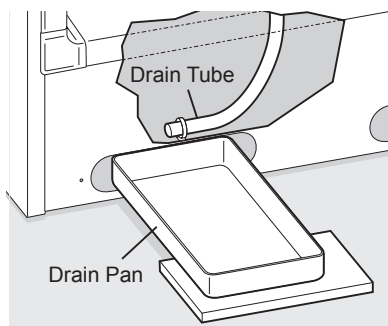
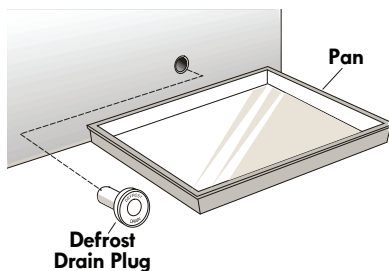
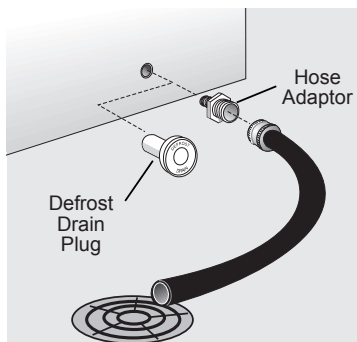

Figure 1
Figure 2
Figure 3
- Place a shallow pan under the drain tube. Defrost water will drain out. Check the pan occasionally so water does not overflow (see figure 1).
- Place a shallow pan beneath the drain outlet. Pull out the outside drain plug (see figure 2). A ½ inch garden hose adapter can be used to drain the freezer directly into a floor drain (see figure 3). If your model is not equipped with an adapter, one can be purchased at most hardware stores.
- Place a shallow pan or the Divider/Drain Pan (if equipped) beneath the drain outlet. Pull out the outside drain plug (see figure 1). A 1/2 inch garden hose adapter can be used to drain the freezer directly into a floor drain (see figure 2). If your model is not equipped with an adapter, one can be purchased at most hardware stores.
- Remove the drain plug inside the freezer by turning counterclockwise (see figure 3). Defrost water will drain out. Check pan occasionally so water does not overflow.